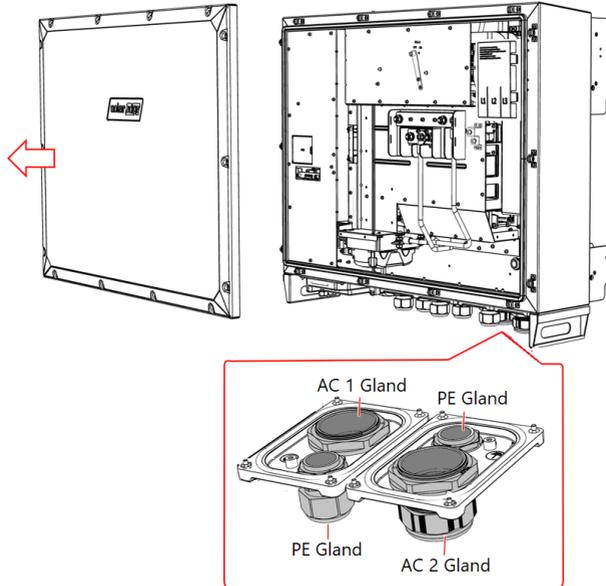

Figure 25: Inverter cover and AC panels
1. Release the Allen screws that secure the front cover to the inverter and carefully remove the cover (see *Figure 25*).
2. Remove the nut from Protective Earth (PE) gland and insert the PE cable through the PE gland (see *Figure 25*).
5. Remove the nut from AC 1 and AC 2 cable glands (see *Figure 25*) and lead the cables through the AC glands.